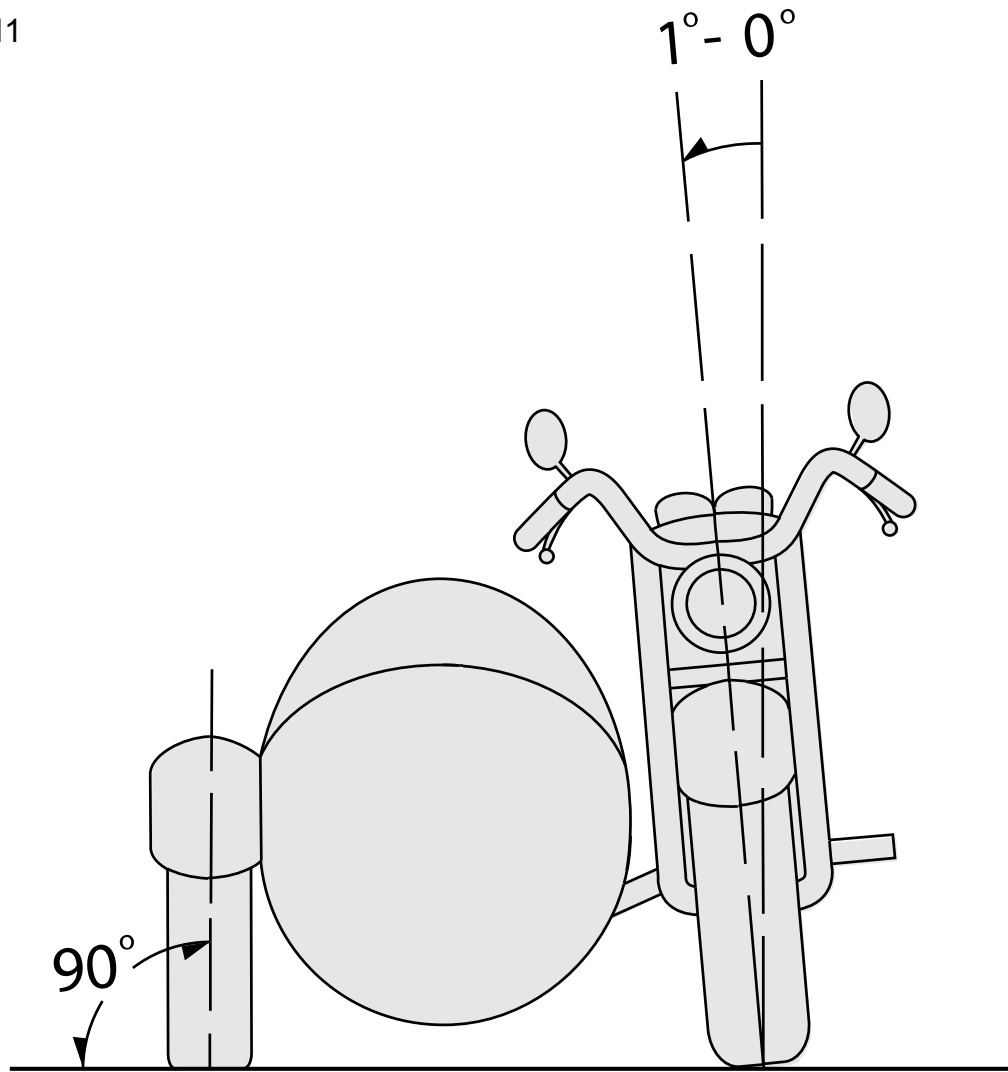

Figure 2-42. Motorcycle Lean-angle
6. See Front Sidecar Connection in Installation (Page 2-18). Adjust sidecar front brace (1) forward or backward in clamps (2) so motorcycle leans approximately 1 degree in towards sidecar as shown in Figure 2-42.